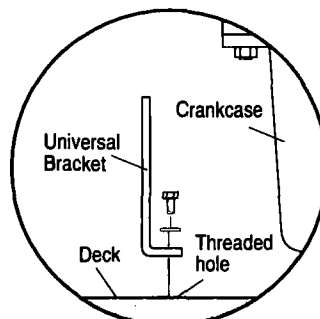

Figure 2A
1. Install the universal bracket to the deck as shown in Figure 2A with two flat washers and two 3/8 inch (10 mm) diameter bolts (not supplied).